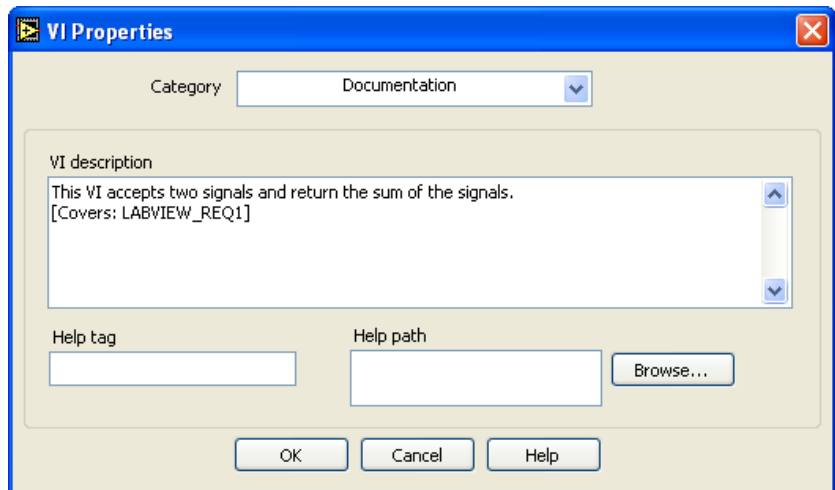

Figure 9-2. LabVIEW VI Properties Dialog Box
6. Paste the text from the clipboard using **<Ctrl-V>** in the **VI description** control, after the existing comments. LabVIEW adds **[Covers: LABVIEW_REQ1]** to the description, as shown in Figure 9-2.